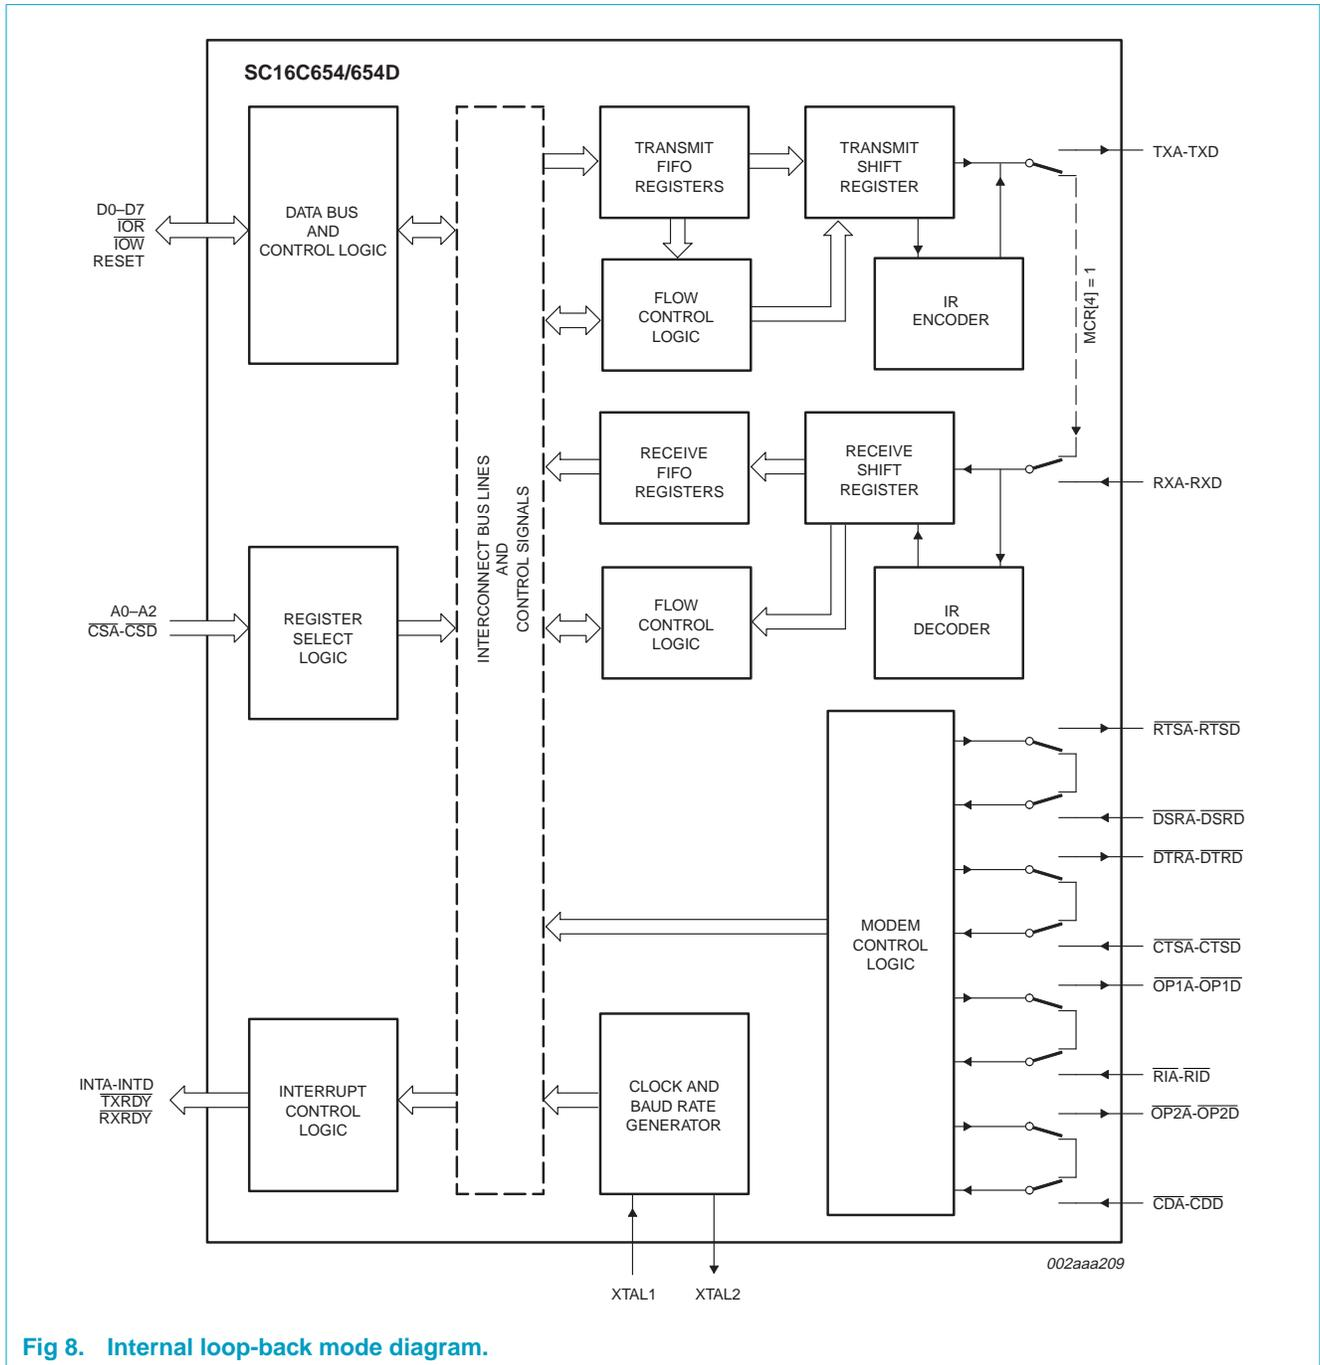

Fig 8. Internal loop-back mode diagram.
The internal loop-back capability allows on-board diagnostics. In the loop-back mode, the normal modem interface pins are disconnected and reconfigured for loop-back internally. MCR[0-3] register bits are used for controlling loop-back diagnostic testing. In the loop-back mode, OP1 and OP2 in the MCR register (bits 2-3) control the modem \overline{RI} and \overline{CD} inputs, respectively. MCR signals \overline{DTR} and \overline{RTS} (bits 0-1) are used to control the modem \overline{CTS} and \overline{DSR} inputs, respectively. The transmitter output (TX) and the receiver input (RX) are disconnected from their associated interface pins, and instead are connected together internally (see Figure 8). The \overline{CTS} , \overline{DSR} , \overline{CD} , and \overline{RI} are disconnected from their normal modem control input pins, and instead are connected internally to \overline{DTR} , \overline{RTS} , $\overline{OP1}$ and $\overline{OP2}$. Loop-back test data is entered into the transmit holding register via the user data bus interface, D0-D7. The transmit UART serializes the data and passes the serial data to the receive UART via the internal loop-back connection. The receive UART converts the serial data back into parallel data that is then made available at the user data interface D0-D7. The user optionally compares the received data to the initial transmitted data for verifying error-free operation of the UART TX/RX circuits.